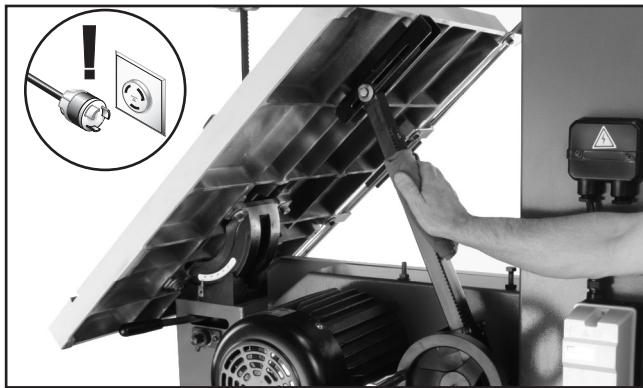

Figure 59. Table tilt rack and pinion assembly.
3. Move the table up to its maximum 45° angle and wipe (Figure 59) off all existing grease and sawdust buildup from the rack.